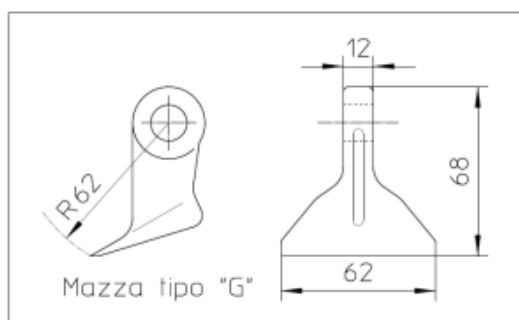

Figure 50
- 1- Remove the under crankcase SC and the crankcase C of the transmission cover (figure 50);